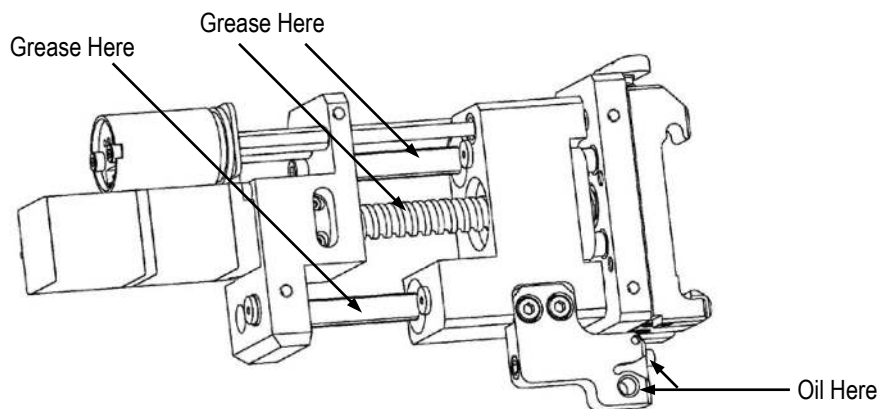

Figure 61
5. Lightly lubricate ball screw and linear rails with lithium EP NLGI No. 2 grease. Refer to Figure 61.
6. Apply light machine oil to feed arm plunger and pivot hole. Refer to Figure 61.